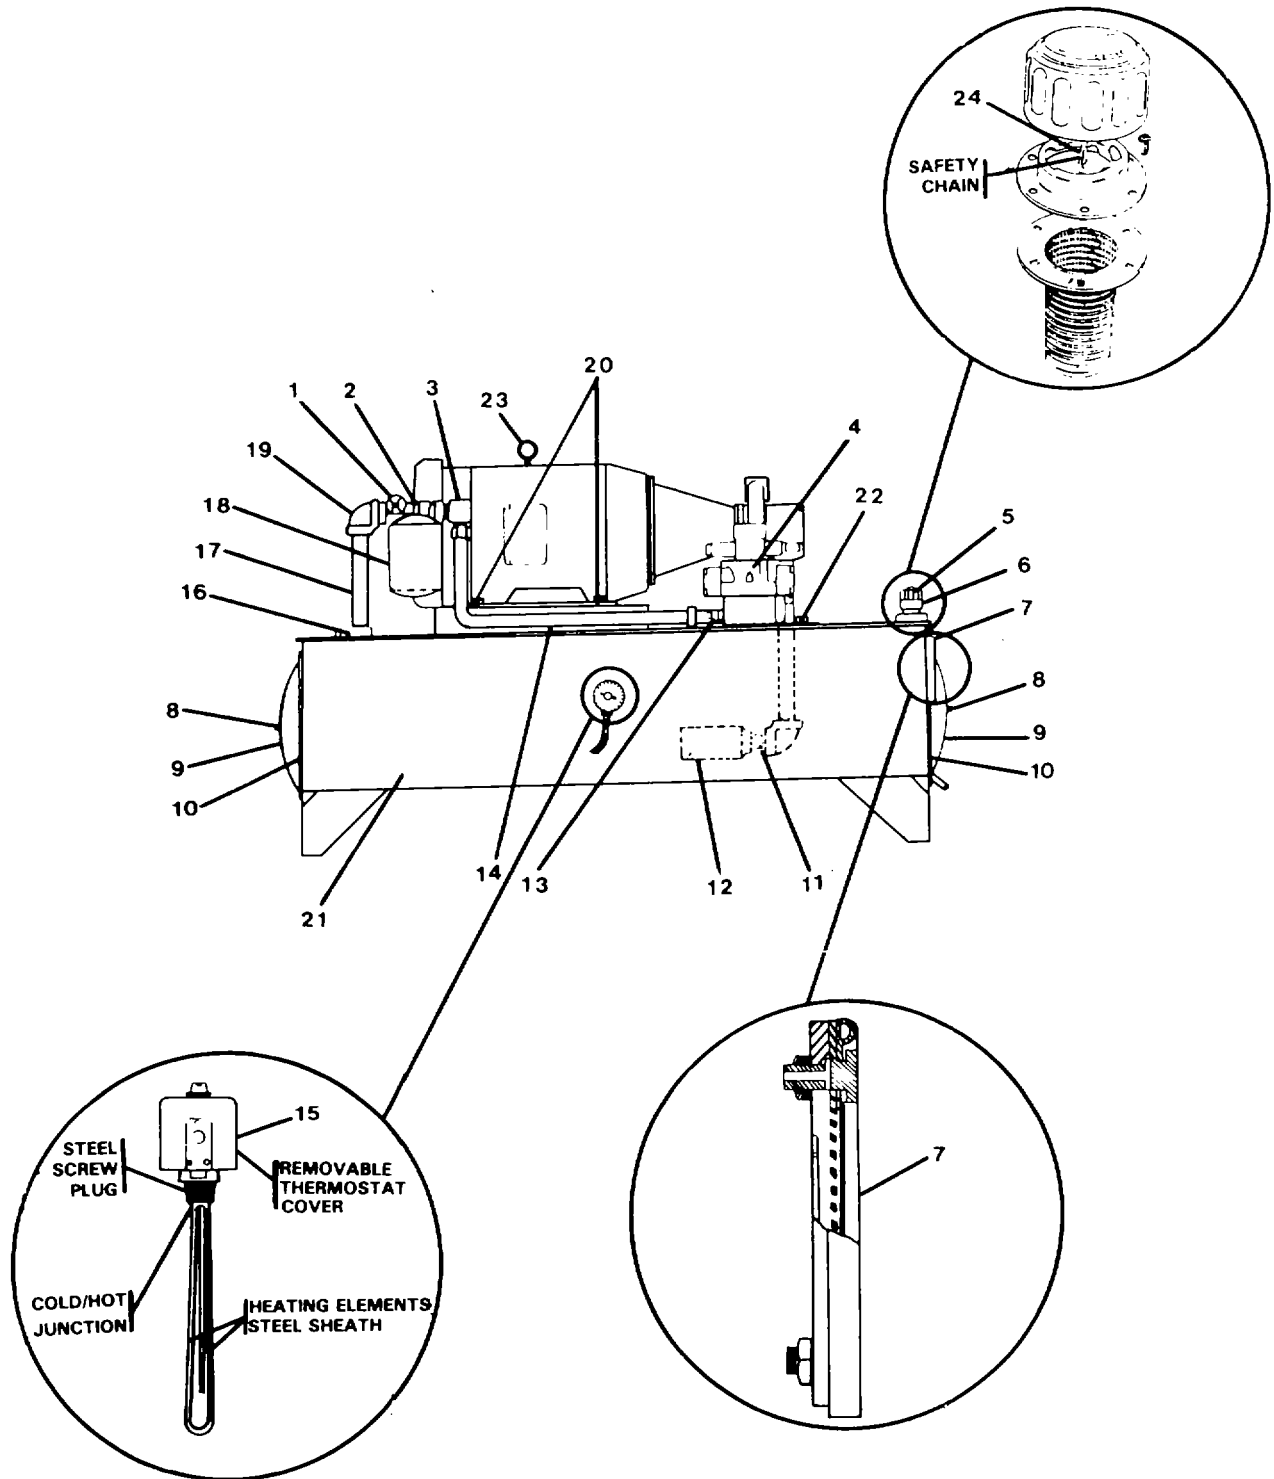

FIGURE 2-6. Hydraulic Power Pack Assembly.
2-17. **Repair Hydraulic Power Pack Assembly.** (FIGURE 2-6)
(1) Position liquid sight indicator (7) to the mounting holes on the reservoir.
(2) Secure indicator with attaching connectors. (See detail, FIGURE 2-6).
(1) Connect safety chain (24) securing the breather. (See detail, FIGURE 2-6).
(2) Replace breather (5).